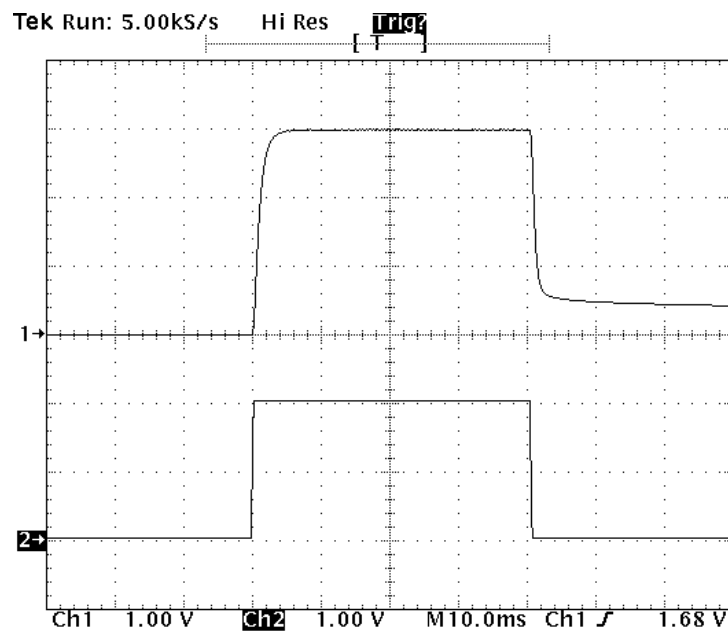

Fig. 9
- The oscillogram must appear like the one in Fig. 9.